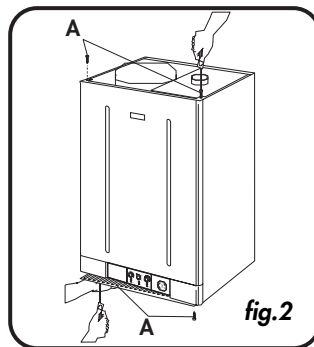

fig.2
- Undo the four shell attachment screws **A** (fig. 2)